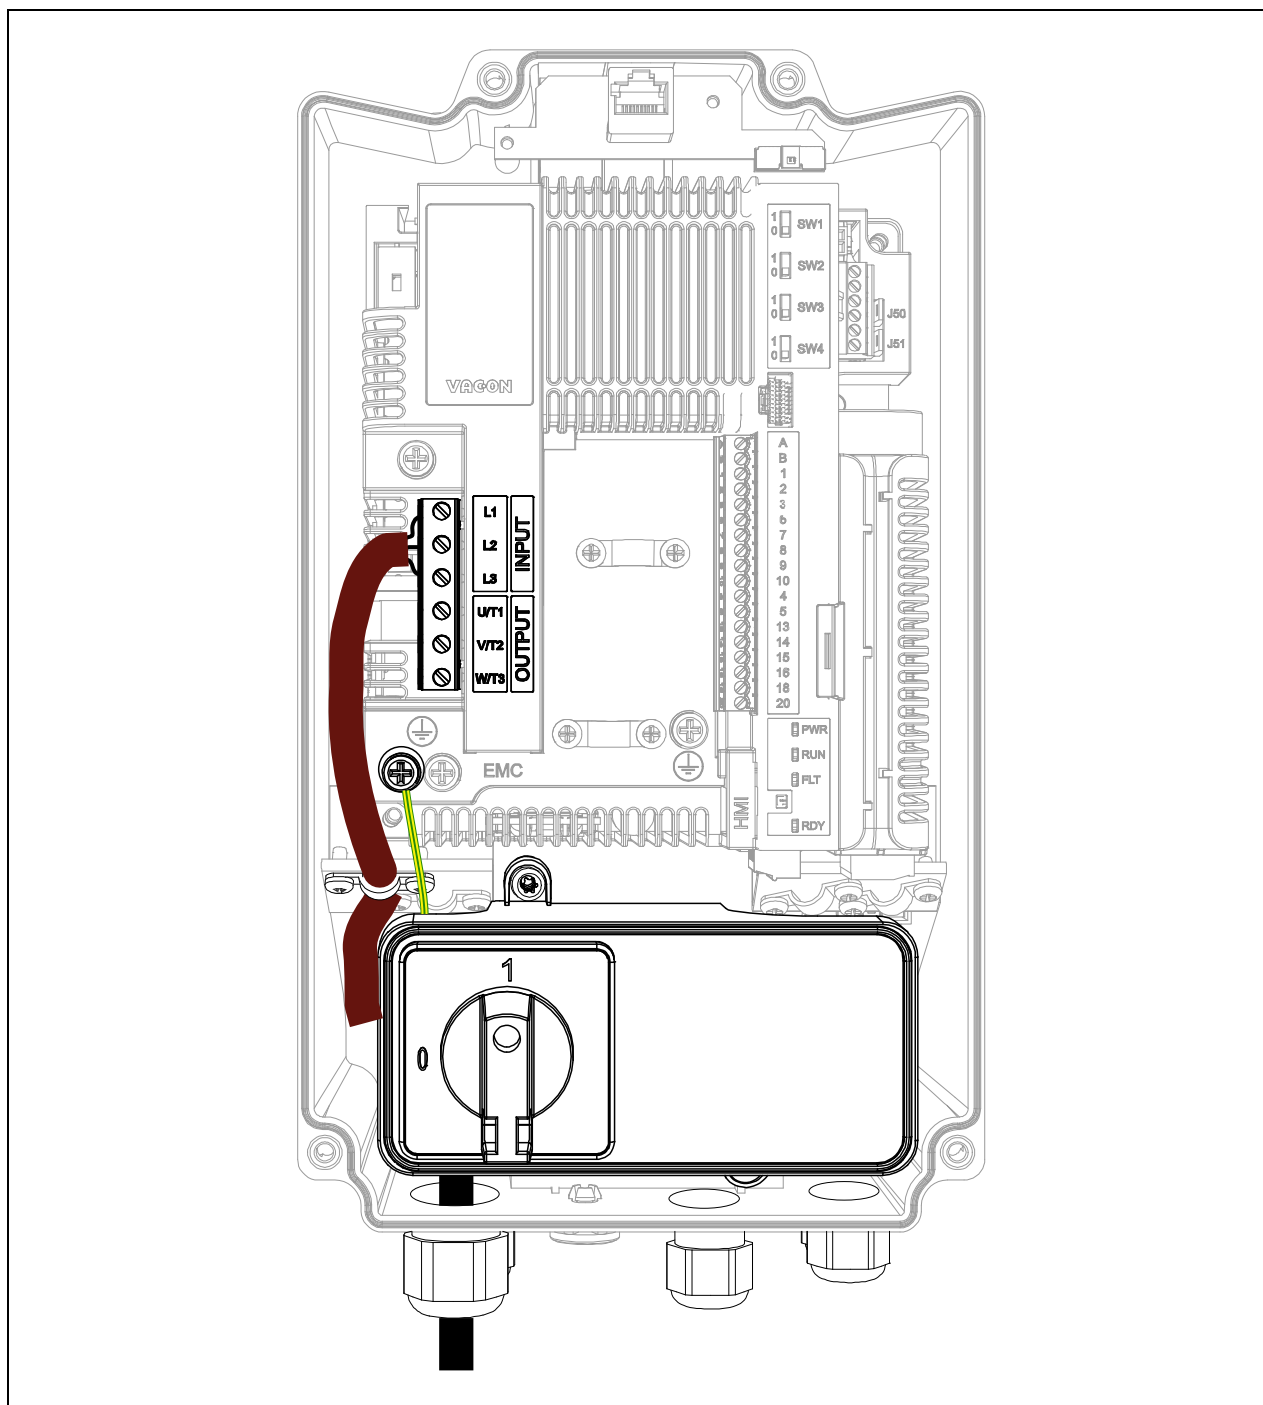

Figure 57. Mains switch and cables connected.
- Connect the GROUND wire to the proper terminal (see the yellow-green cable on Figure 57).
7	<ul style="list-style-type: none"> Connect the GROUND wire to the proper terminal (see the yellow-green cable on Figure 57).